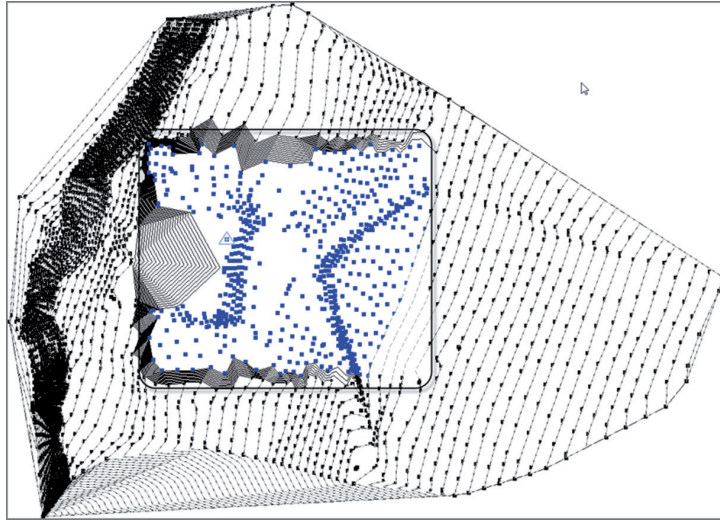

FIGURE BC3.37: Selecting a range of points
9. Draw a selection window around the center of the site (doing so selects a bunch of points), as shown in Figure BC3.37.